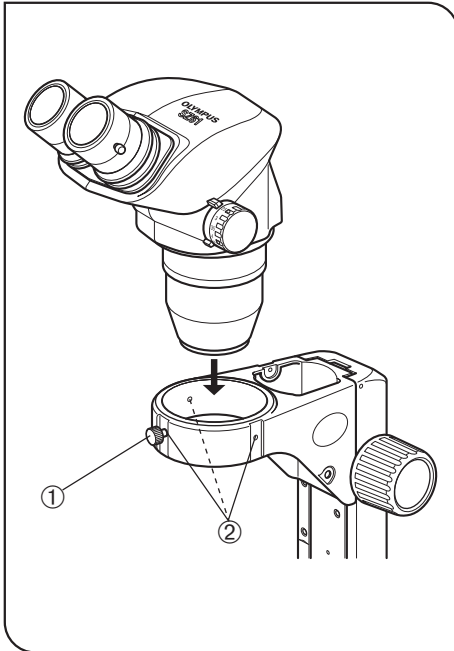

Fig. 13
(Fig. 13)
- Loosen the body clamping knob ① and insert the microscope body gently.
- Ⓢ The body clamping knob ① can be attached to any of the three positions ② around the arm. After installation, attach the knob to a position so that the knob does not come in the way of the light source, etc.
- Ⓢ If you always perform observation from the side of the focus adjustment knobs, the microscope body can be installed in the opposite orientation to that shown in Fig. 13 (at the 180° rotated position).